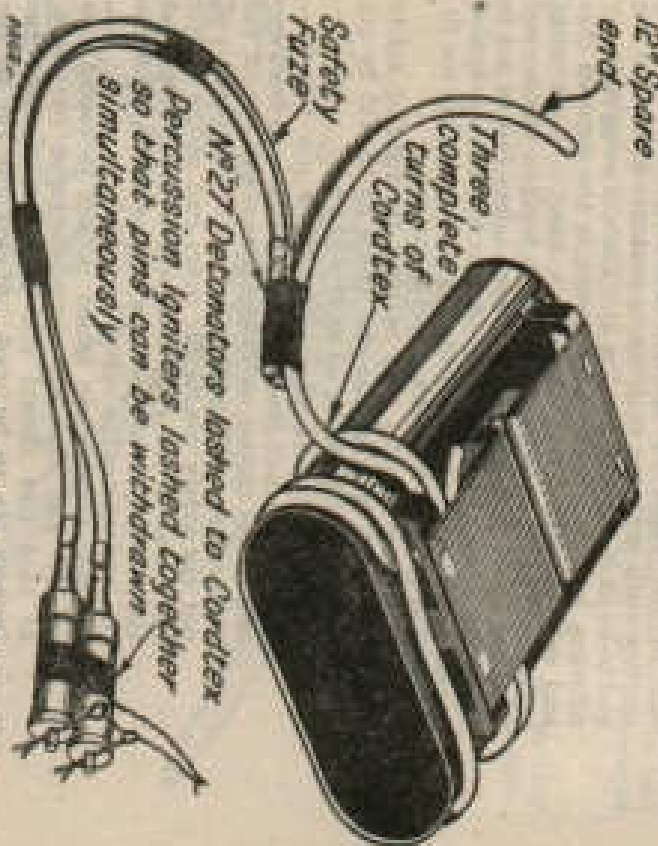

Fig 6. No. 75 grenade prepared as a demolition charge
(b) *Initiation.*—The grenade will be initiated by wrapping three turns of detonating fuse (see Sec 5) round the end containing the primer, as shown in Fig 6. It is NOT to be detonated by the igniter set supplied for use when it is employed as an anti-tank mine. If an attempt is made to initiate it with detonator and safety fuse or detonating fuse in one of the normal detonator holes, failures up to 50 per cent may result. There are two reasons for this. First, when the detonator is fired by the igniter set (i.e., when in use as an anti-tank mine), the pressure on the plate tends to press the detonator down on to the priming charge. This does not occur when the grenade is used as a demolition charge. Secondly, the safety fuse may contract in length as it burns and draw the detonator back so that it is not directly over the priming charge when it explodes.
- (a) *Inserting safety fuse into detonator*.—Cut one end of the fuse with a sharp knife on a hard surface, taking care to make a clean cut; take a detonator from the box and empty any sawdust or other foreign matter out of it by tapping on the thumbnail. Insert the squared end of the safety fuse into the detonator and push it gently but firmly as far as it will go. Do NOT employ any screwing action. Hold the safety fuse between the third finger and thumb and crimp the detonator on to the fuse near the open end with a pair of crimping pliers, holding the detonator in place with the forefinger while doing so (see Fig 6); or use the main spike of a jack knife. The use of the teeth is not recommended. NEVER CRIMP THE DETONATOR NEAR THE CLOSED END.
All ranks concerned must understand the possible causes of failure and must also realize that however much care is taken, no initiating set can ever be guaranteed as 100 per cent certain. The set cannot be tested, as the only test is to fire it. Consequently on all important demolition work, particularly assault work, and preferably always, **TWO INITIATING SETS SHOULD BE USED**. This gives a reasonable guarantee against failure. The use of two sets, whatever the importance of the job, is a good habit to form (see Fig 6).
- Note.*—The 75 grenade has a special primer incorporated in it and is initiated with 3 turns of cordtex round the end opposite the filter cap as shown in Fig 6.